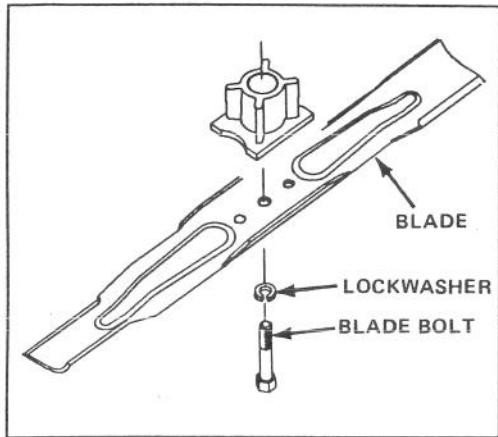

Figure 19
5. REMOVING BLADE – Grasp end of blade using a rag or thickly padded glove. Remove blade bolt, lockwasher and blade (Fig. 19).